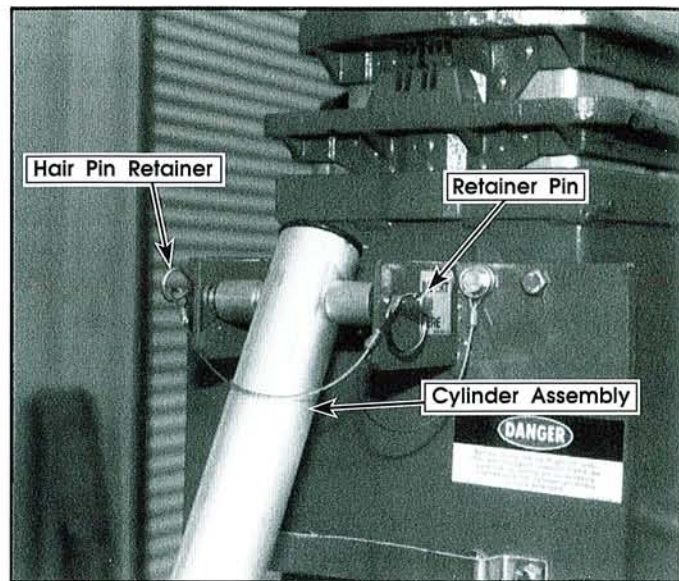

Figure 15: Cylinder assembly secured with retaining pin
2. While holding Tilt Back frame, remove the retaining pin and lower the caster frame until the hole in the cylinder assembly aligns with the upper mounting bracket pin hole (Figure 15).
3. Attach the cylinder assembly to the upper mounting bracket using the retaining pin and hair pin retainer (Figure 15).